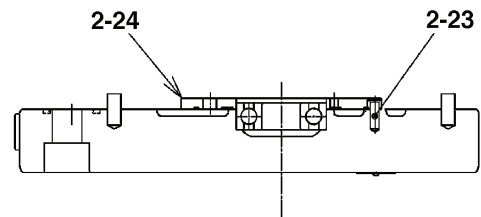

Figure 67
21. Install pin (2-23, Figure 67), then install valve plate (2-24, Figure 67).